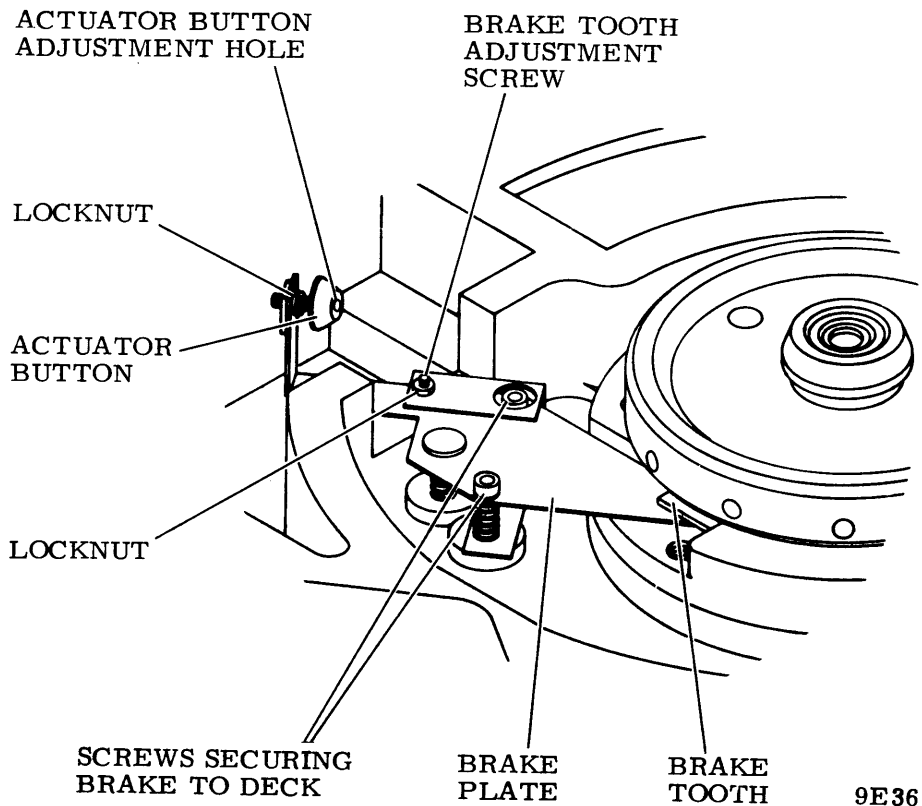

Figure 6-27. Parking Brake Replacement/Adjustment
The parking brake is located on the deck near the spindle (refer to figure 6-27). It is necessary to remove only the brake cover plate to access the parking brake for removal and replacement. Adjustment is covered in the Parking Brake Adjustment procedure.
4. Remove hardware securing parking brake assembly to deck (refer to figure 6-27) then remove assembly and set aside.
The parking brake has two adjustments (refer to figure 6-27); they are the actuator button to pack clearance and the brake tooth to bottom of spindle clearance.